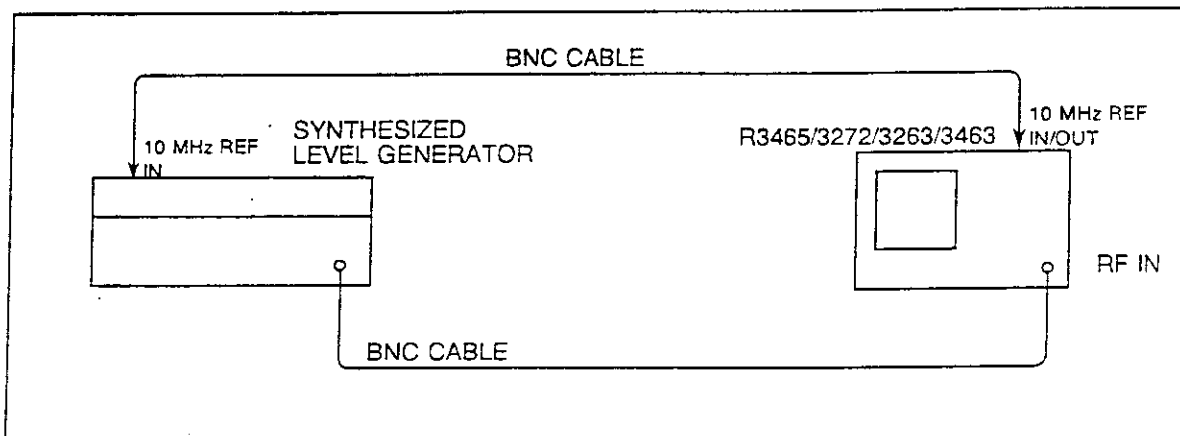

Figure 1-14 IF Gain Uncertainty Test Setup
- (1) Connect the equipment as shown in Figure 1-14.
- (2) Set the SG4 controls as follows: